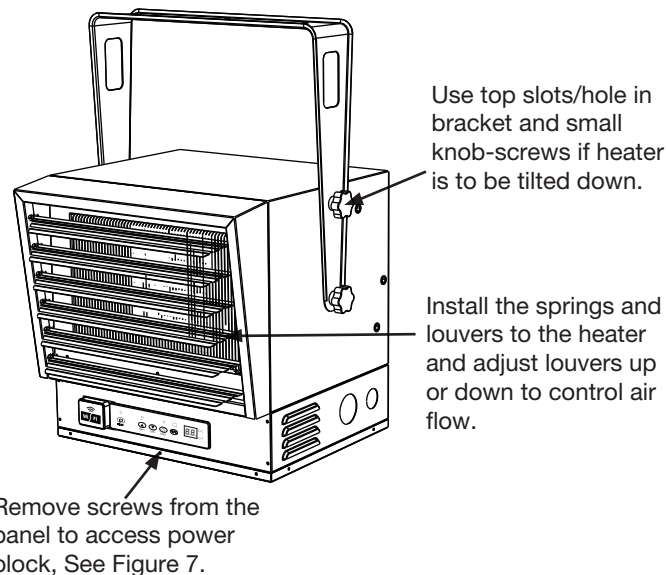

Figure 5
3. Aim the heater horizontally or tilted by aligning the upper bracket holes with the top threaded holes on the heater and secure with the small knob-screws and tighten all. See **Figure 5**.
1. **Tilt the unit**- Loosen the top Small Knob-Screws and thread into provided holes in heater until tight. See **Figure 5**.
2. **Adjust the louvers** in front of the heater as desired. See **Figure 5**.